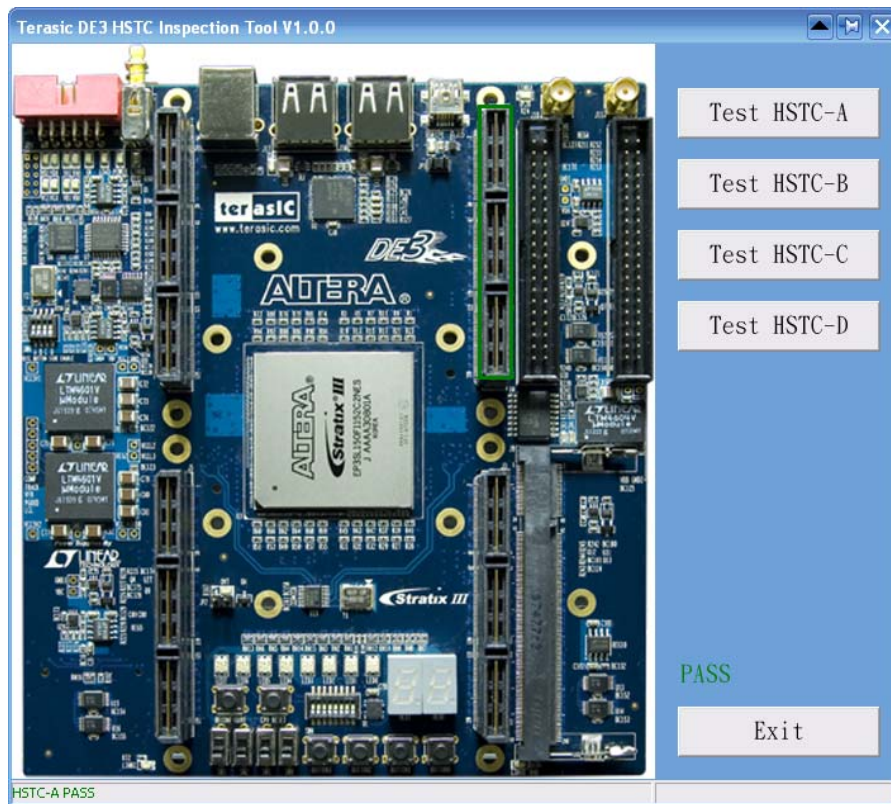

Figure D.4. The test result of the HSTC connector A
7. The test result will be reported on the panel of the DE3_HSTC utility as shown in Figure D.4.